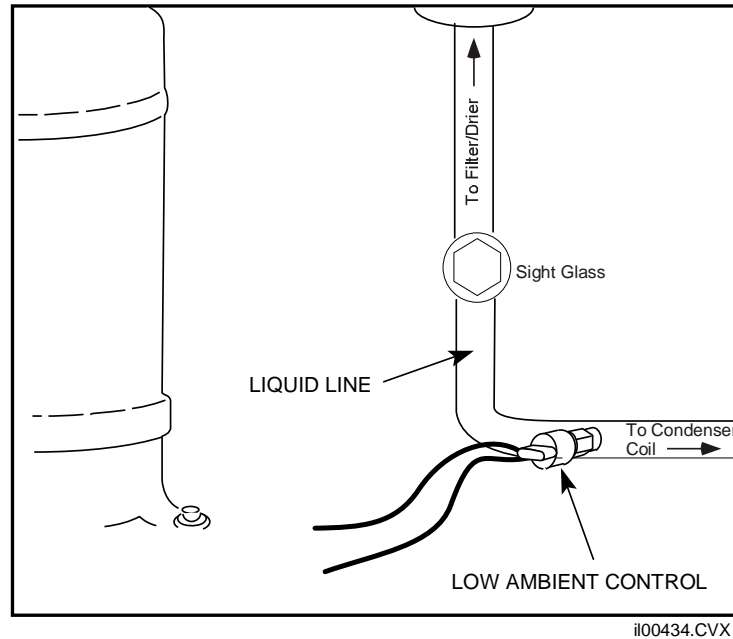

Figure 1. Typical Unit Shown
2. Secure low ambient control to service port located on liquid line between the condenser coil and thermal expansion valve. The control is equipped with a built-in valve core depressor to prevent refrigerant loss. See Figure 1.